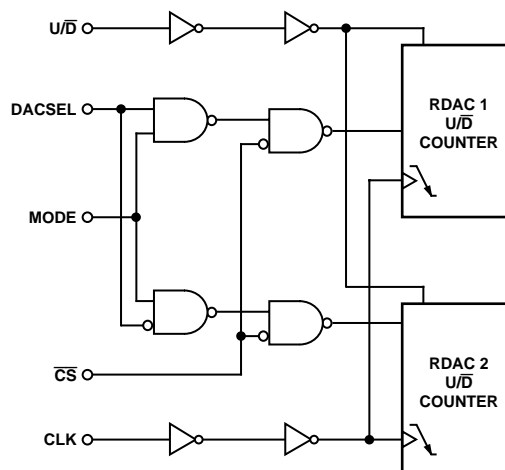

Figure 30. Detailed Digital Logic Interface Circuit
The AD5222 contains a push-button controllable interface. The active inputs are clock (CLK),  $\overline{CS}$  and up/down (U/D). While the MODE, and DACSEL pins control common updates or individual updates. The negative-edge sensitive CLK input requires clean transitions to avoid clocking multiple pulses into the internal UP/DOWN counter register, Figure 30. Standard logic families work well. If mechanical switches are used for product evaluation a flip-flop or other suitable means should debounce them. When  $\overline{CS}$  is taken active low, the clock begins to increment or decrement the internal up/down counter, dependent upon the state of the U/D control pin. The UP/DOWN counter value (D) starts at  $40_H$  at system power ON. Each new CLK pulse will increment the value of the internal counter by 1 LSB until the full-scale value of  $7F_H$  is reached, as long as the U/D pin is logic high. If the U/D pin is taken to logic low, the counter will count down, stopping at code  $00_H$  (zero-scale). Additional clock pulses on the CLK pin are ignored when the wiper is at either the  $00_H$  position or the  $7F_H$  position. The detailed digital logic interface circuitry is shown in Figure 30.